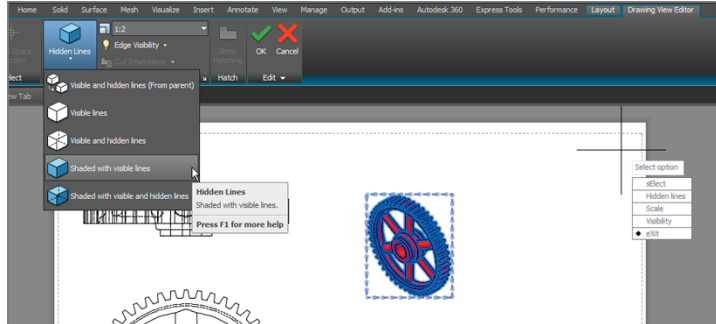

FIGURE 18.23 Changing a view's display properties
8. The isometric view is a bit large. Select it and you will see a special border appear around the view object. On the temporary Drawing View tab that appears, click Edit View. Change the scale to 1:2 in the drop-down in the Appearance panel. Open the Hidden Lines drop-down, and select Shaded With Visible Lines (see Figure 18.23). Click OK in the Edit panel.